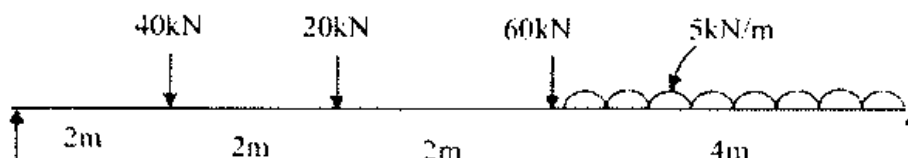

Figure 1
- 12 Construct S.F. and B.M. diagrams for the simply supported beam as shown in the Figure 1.